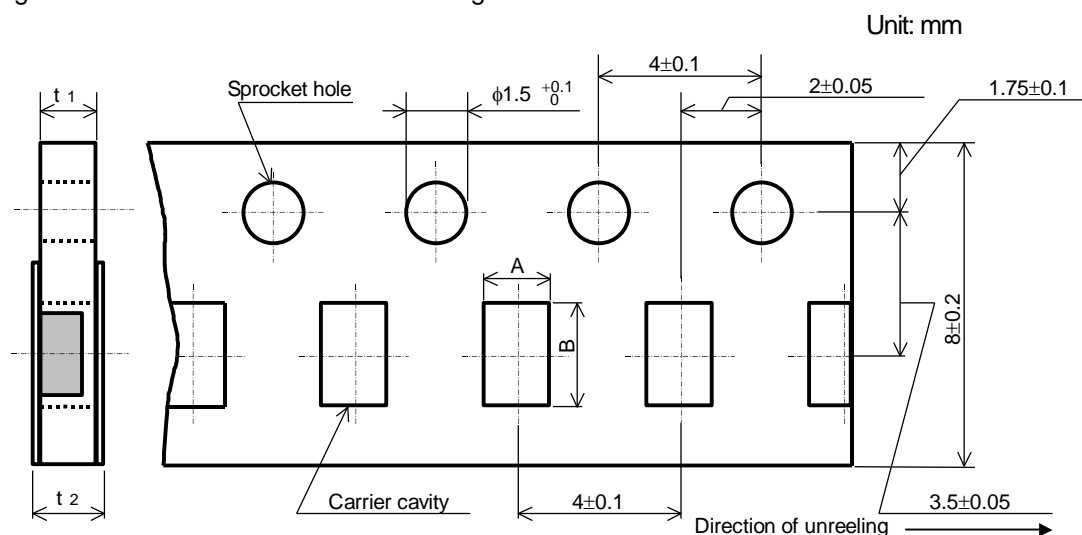

Figure-3
8.2.1 Taping dimensions shall be in accordance with Figure-3 and Table-5.